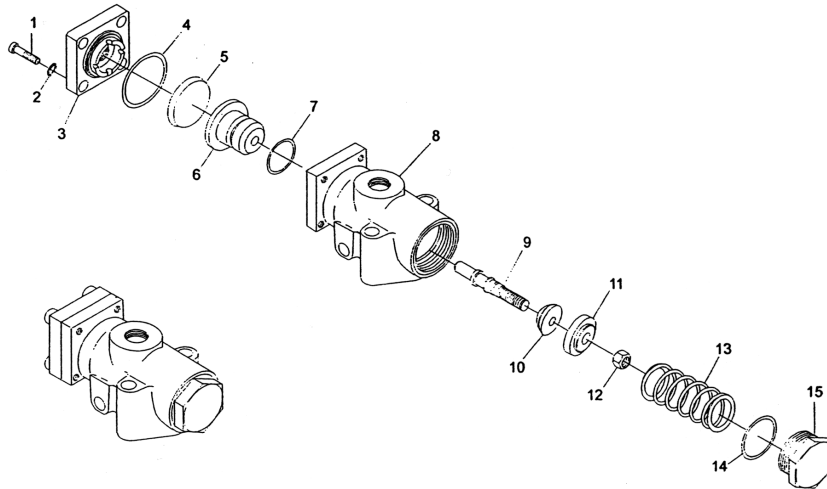

Figure 19 Purge Valve
4. Insert one end of the replacement tube in the cast iron header. The tube will be at a slight angle at this time. Apply the drive tool (Figure 19) to the opposite end of the tube. The sliding member slides over the tube and prevents the copper tube from swelling when driven. Drive the intercooler tube far enough into the cast iron header on the driven end. A few of the fins on the intercooler tube will bunch together during this operation. Space the intercooler tube equidistant between the headers.
1. Remove the four socket head cap screws (20-1) and lock washers (20-2) that secure the square cap (20- 3) to the body (20-8). SCRAP O-ring (20-4). Refer to Figure 19.